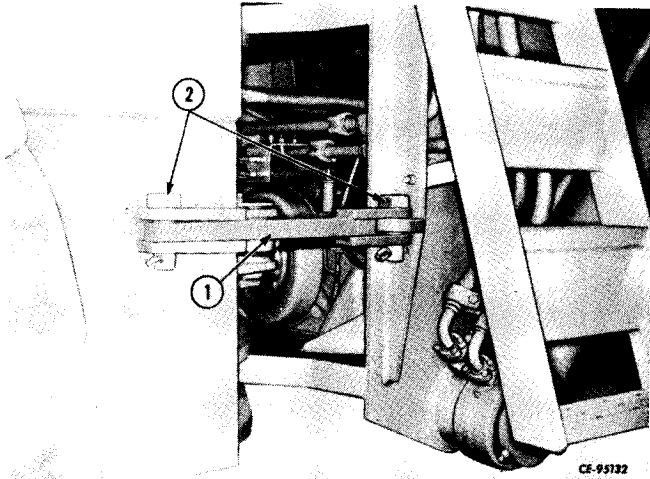

Figure 2-1
Position unit under an overhead hoist and apply the parking brake. Position safety bar (1, Fig. 2-1) and pins (2) in the straight lock position. It is recommended to steam clean the engine compartment and torque converter area before engine removal.